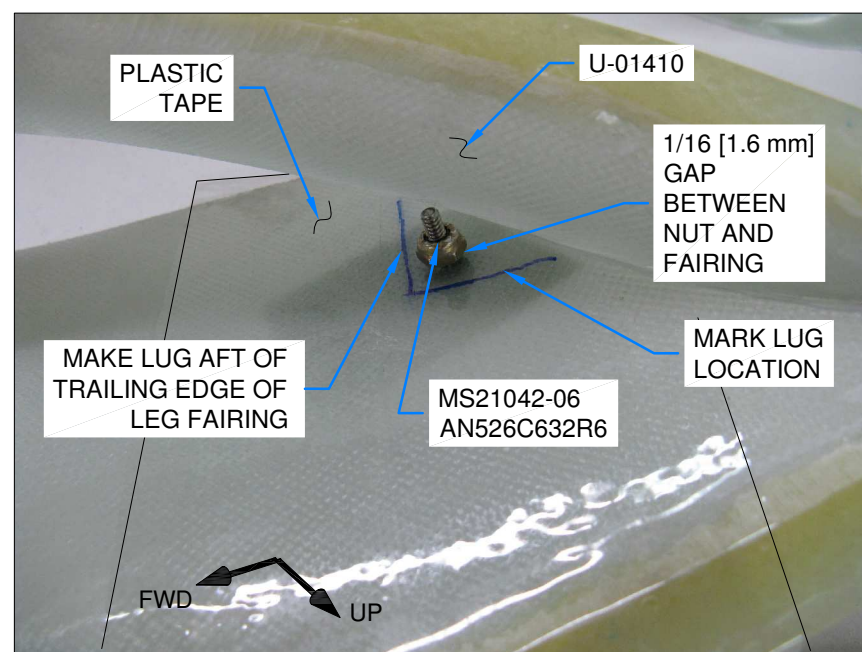

FIGURE 2: SCREW LOCATION PREPARATION
Install the screw and the nut so that when the head of the screw is tight against the outer surface of the fairing there is a 1/16 [1.6 mm] gap between the nut and the inner surface of the fairing. See Figure 2.
Step 4: Mark the inside of the fairing for casting a lug that will allow joining the two trailing edges of the fairing together. The forward edge of the lug must be just aft of the lines marked on the outside of the fairing, so that it can act as a back stop for the trailing edge of the leg fairing. The upper edge of the lug must be just above the nut so that the nut is captured inside the lug as shown in Figure 2.